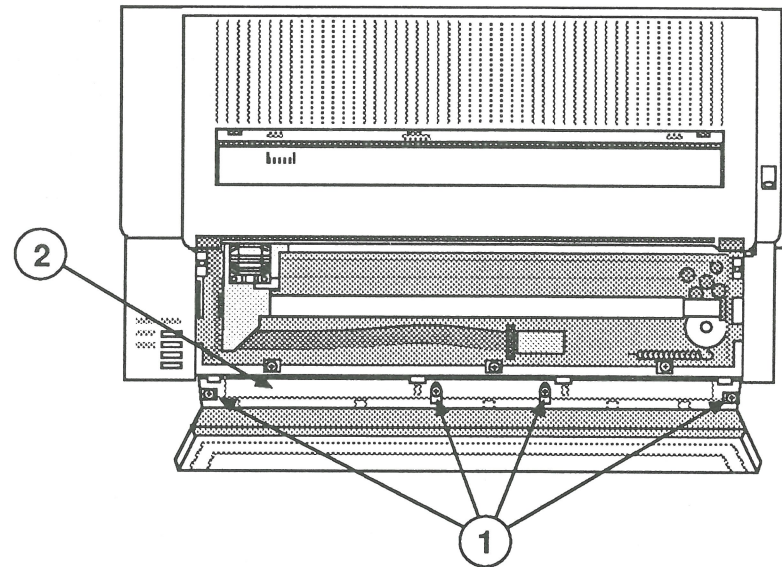

FIGURE 1
2. Remove the four Phillips screws (Figure 1, #1) holding the front cover to the hinge plate (Figure 1, #2).